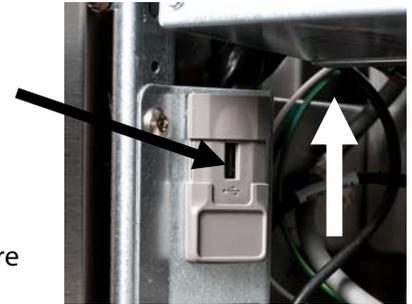

Figure 31
10. Open the far left cabinet door and slide the USB cover up (see Figure 31).